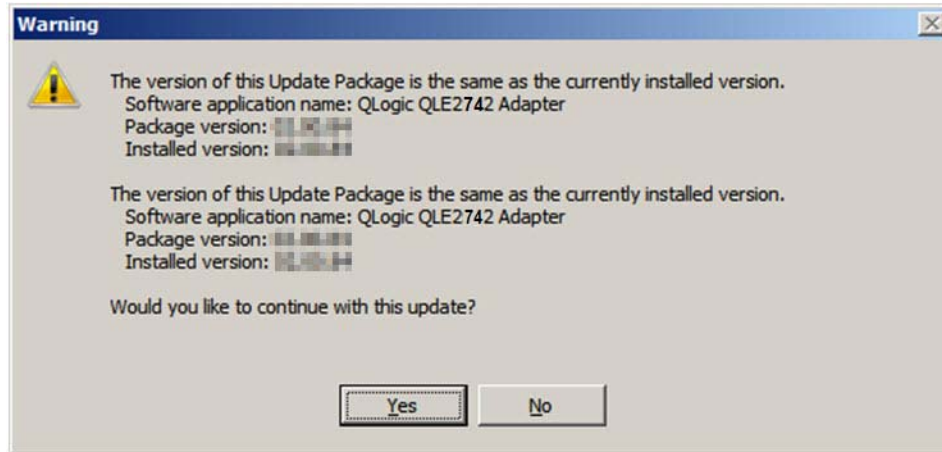

Figure 3-2. Continue Dell Update Package Installation
2. Follow the installer instructions. If a warning message appears (Figure 3-2), click **Yes** to continue the installation.